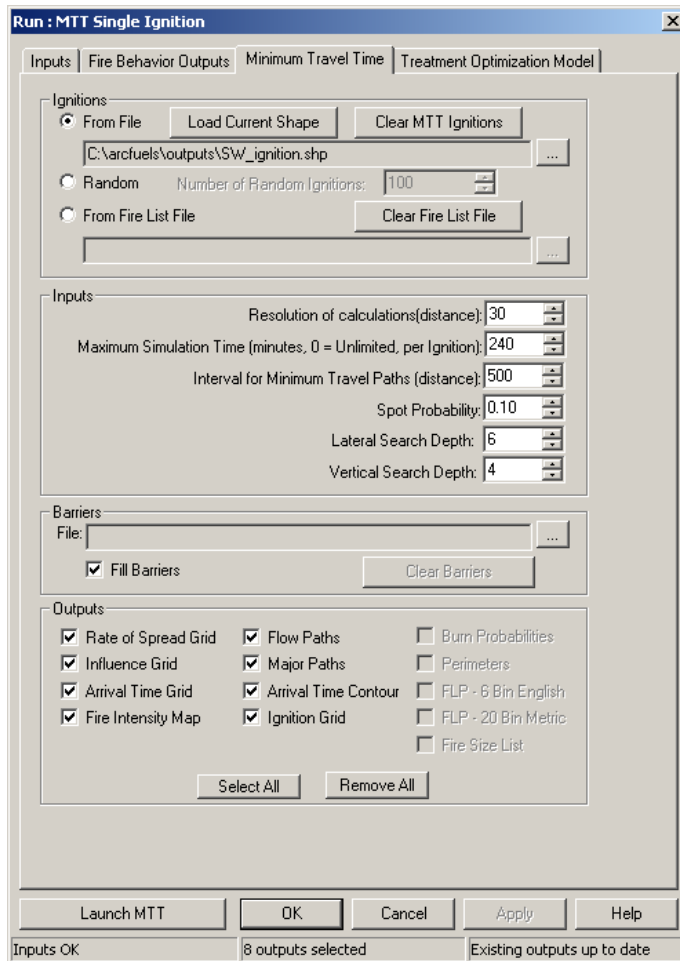

Figure 4-33—MTT single ignition MTT options.
7) Select the **Minimum Travel Time** tab (fig. 4-33).